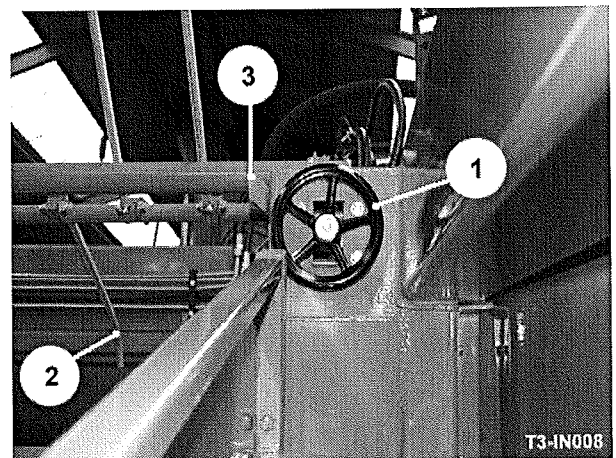

Fig 13
Rotating the position of the haulm roller relative to the digger web alters the amount of material the roller removes. The roller position can be adjusted by turning the hand wheel (item 1, fig 13) mounted on the LH side of the machine. The higher the roller is positioned relative to the web, the more material will be removed. Lowering the roller relative to the web will allow the flow of material to pass over the top of the roller onto the 1st separator unit. Adjusting the haulm roller until the maximum amount of haulm is removed with the minimum amount of potatoes being pulled through or nipped requires careful setting. This setting will need to be altered for different crop conditions, but the initial setting should start with the roller well down and then gradually raising it up. For effective harvesting this is one of the most critical adjustments, hence the simplicity with which it can be varied on the T3.
The function of the haulm fingers (item 2, fig 13) is to catch the haulm and direct it down into the haulm roller. Moving the haulm fingers away from the web will allow a clearer flow for the crop. In green top or heavy trash it may be necessary to rotate some of the fingers out of the crop flow to prevent overloading of the haulm roller and excessive damage to the crop. By releasing a clamp bolt and raising/lowering the handle (item 3, fig 13) the fingers can be raised and lowered. A plastic sleeve is fitted to each finger. The sleeves prevent bruising of the potatoes and should be replaced when they wear through or are lost.